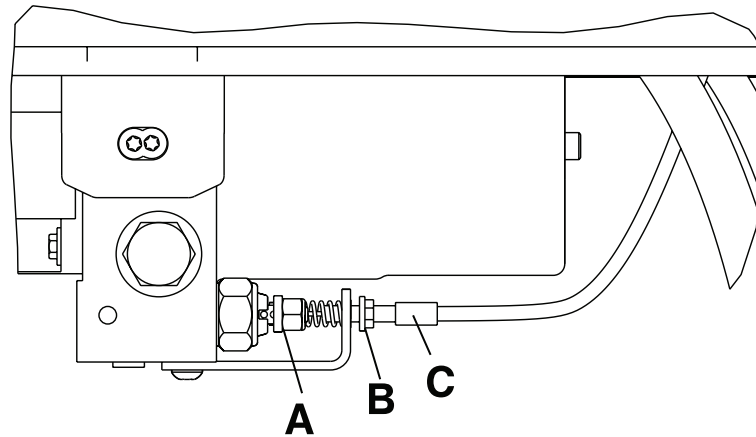

Figure 10: Manual release cable
2. Make sure that the manual release cable is intact (A). (Figure 10 on page 45).
3. Using a 10 mm combination wrench, loosen the cable lock nut (B). (Figure 10 on page 45).
4. Using an 8 mm combination wrench, adjust the tension on the manual release cable so it just starts to touch the manual release dual pull bracket (C). (Figure 10 on page 45).